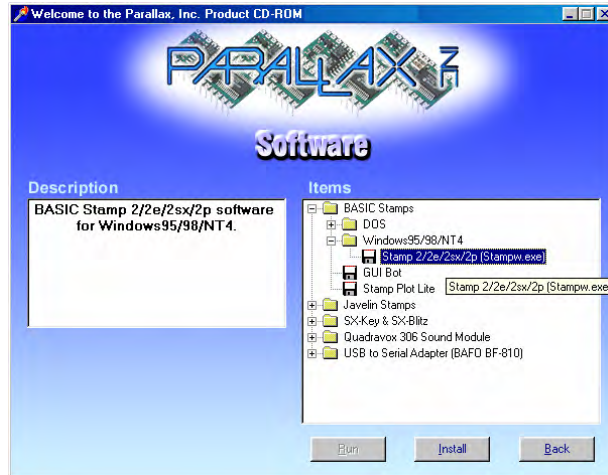

Figure 1-15
- ✓ Click the + next to the BASIC Stamps folder shown in Figure 1-15.